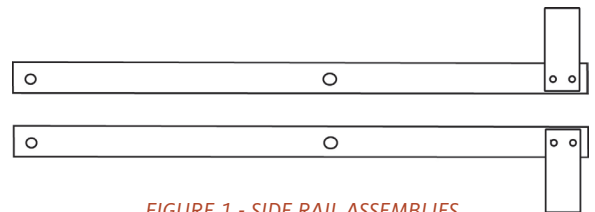

FIGURE 1 - SIDE RAIL ASSEMBLIES
- Attach a tension rail upright to each side rail as shown in figure 1, using the 2" carriage bolts, washers and lock nuts. Be sure that the completed side rail assemblies are mirror images of each other.